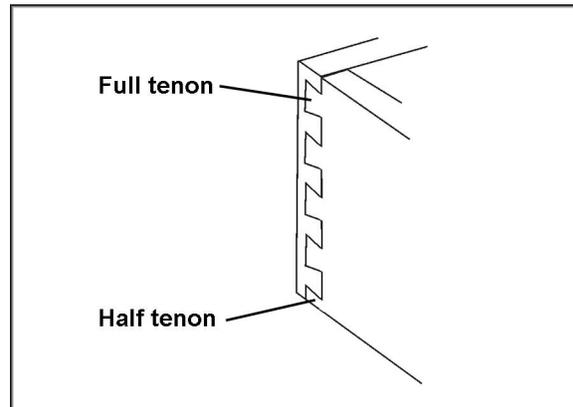

Figure 28
**TIP:** When using drawer side widths that are not “whole inch” sizes, you may wish to gauge off the top of the drawer rather than the bottom when placing workpieces in the machine. Doing this will improve the look of the drawer by providing a full tenon near the top of the drawer and the half-tenon will end up at the bottom. See Figure 28.